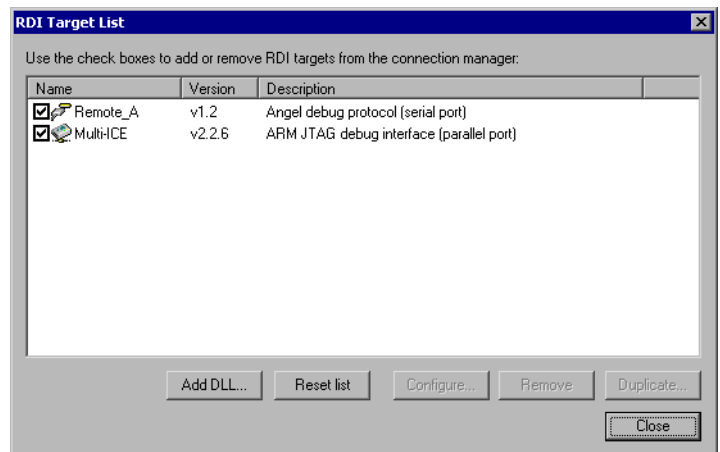

Figure B-5 RDI Target List
- b. Select **Add/Remove/Edit Devices...** from the context menu to display the RDI Target List dialog box, shown in Figure B-5.